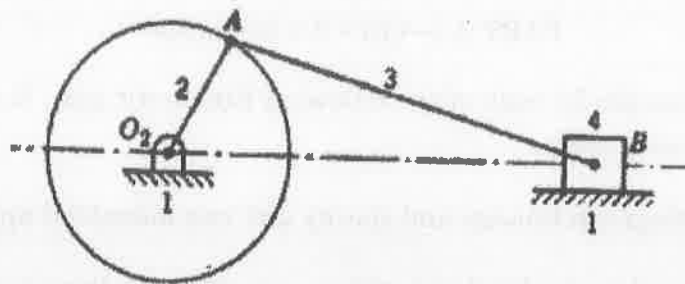

Figure 2
- (ii) In the mechanism shown in Figure 2, link 4 moves to the right. Where; $O_2A = 120$ mm, $AB = 400$ mm and $\angle AO_2B = 40^\circ$. Draw the possible extreme position(s) and toggle positions of the configuration. Also, calculate the stroke of this configuration. (5)